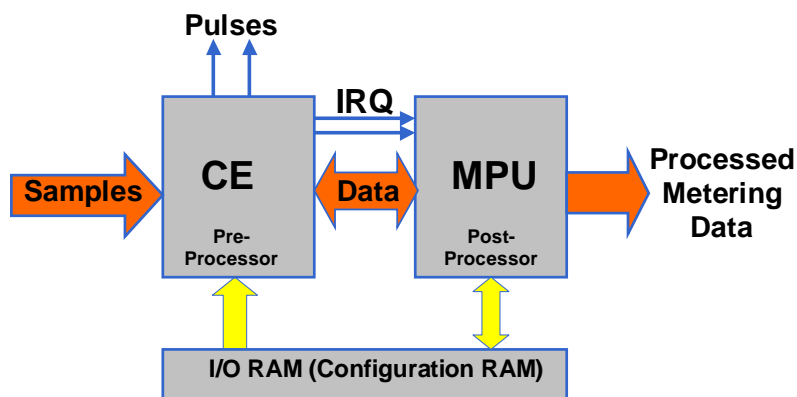

Figure 25: MPU/CE Data Flow
The data flow between CE and MPU is shown in Figure 25. In a typical application, the 32-bit compute engine (CE) sequentially processes the samples from the voltage inputs on pins IA, VA, IB, and VB, performing calculations to measure active power (Wh), reactive power (VARh), A²h, and V²h for four-quadrant measurement. These measurements are then accessed by the MPU, processed further and output using the peripheral devices available to the MPU.